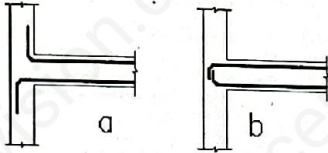

Figure 8
35. In which of the following cases in Figure 8 has the main bars of the beam been wrongly represented by the draftsman?